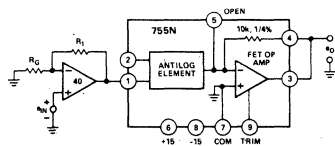

Figure 6. Method for Adjusting $K < 2/3V$
Scale Factor (K) Adjustment — The scale factor may be adjusted for all values of K greater than 2/3V by the techniques described in the log section. If a value of K, less than 2/3V is desired for a given application, an external op amp would be required as shown in Figure 6. The ratio of the two resistors is approximately: